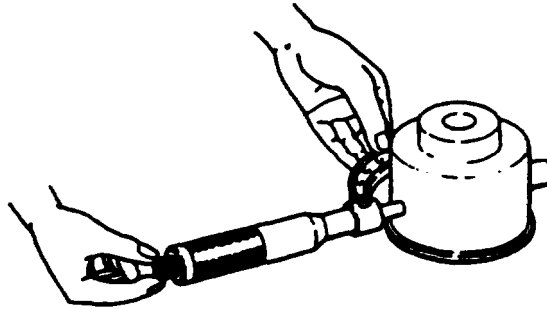

FIGURE 3-103. Idler Gear Shaft Outside Diameter
- a. Using a micrometer, measure idler gear shaft OD, refer to FIGURE 3-103. standard 00 is 1.769 to 1.770 in. (44.95 to 44.98 mm), with a limit of 1.767 in. (44.96) If OD is less than limit, replace shaft.